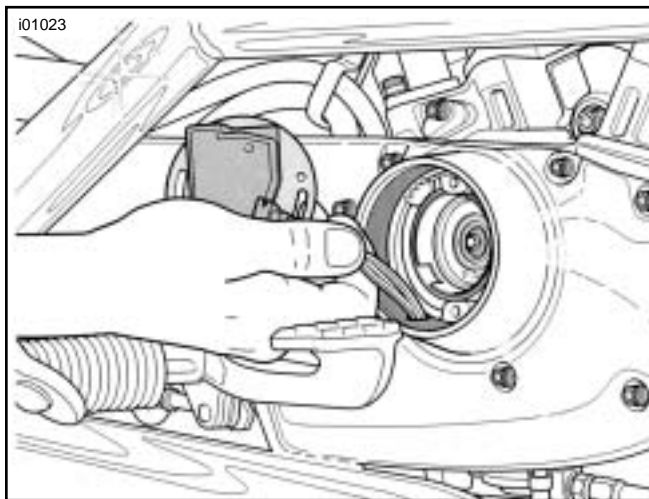

Figure 2. Remove the Module Plate
8. See Figure 2. Remove the module plate and wires.